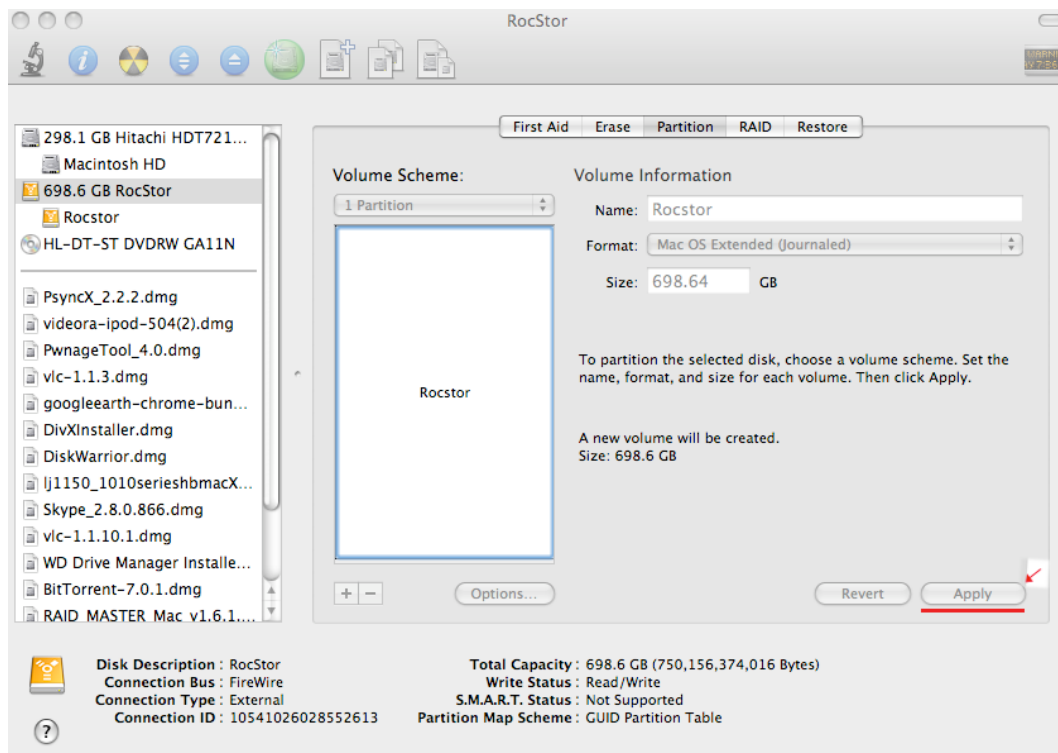
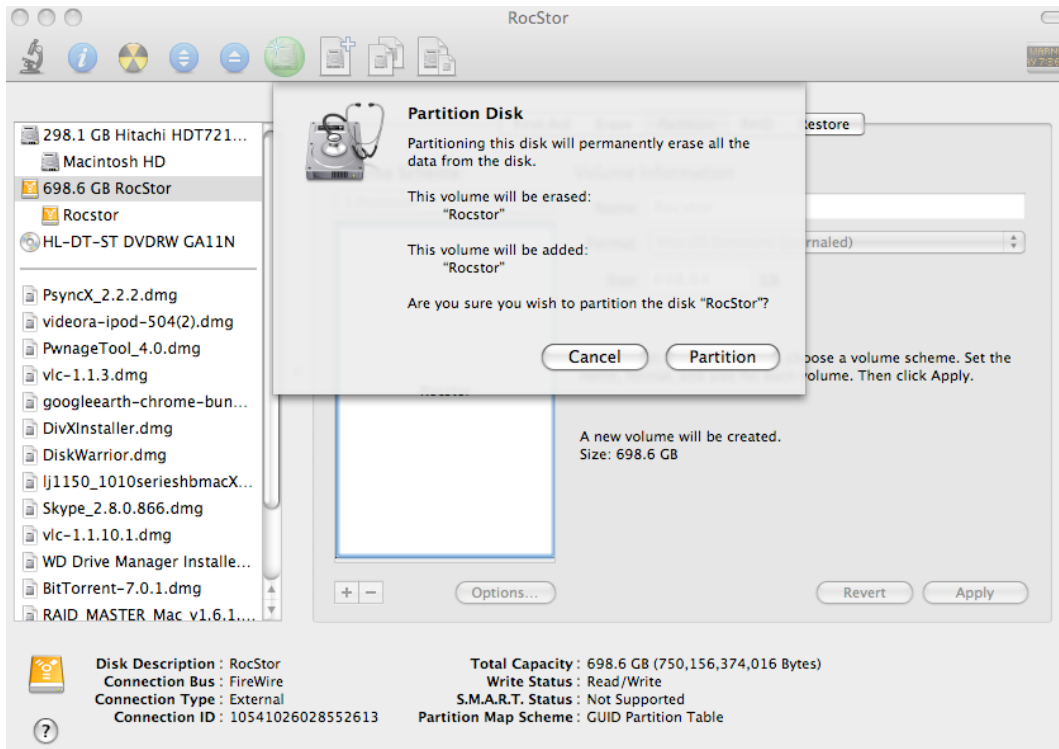

Figure 7.1
Figure 8.0
12. After selecting the type of format, click the **“Apply”** tab in the lower right of the screen, (figure 7.1.) On the next screen, Partition Disk, click **“Partition”** (figure 8.0)